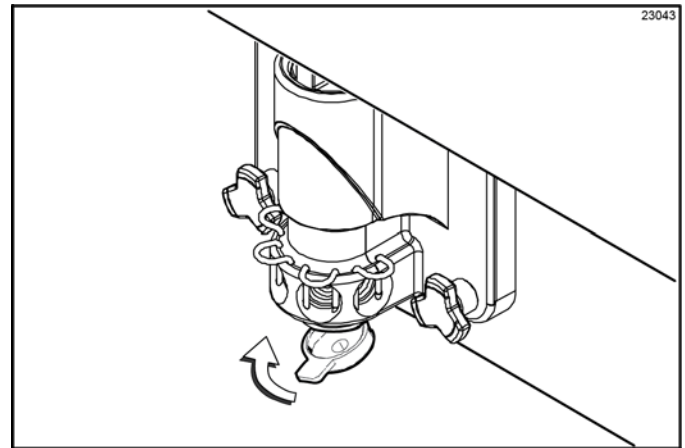

Figure 6-77
7. Install the restrictor cap on the freezer door spout. (See Figure 6-77.)